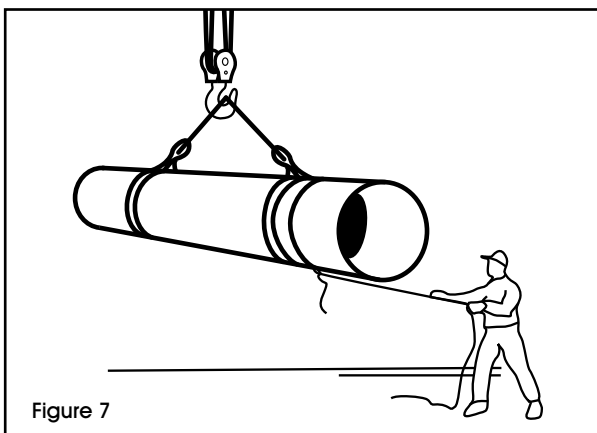

Figure 7
- Hands and fingers shall not be placed between the sling and load while the sling is being tightened around the load. After lifting, the load should not be pushed or guided by employees hands directly on the load. Ropes or "tag lines" should be attached for this purpose. (See Figure 7)